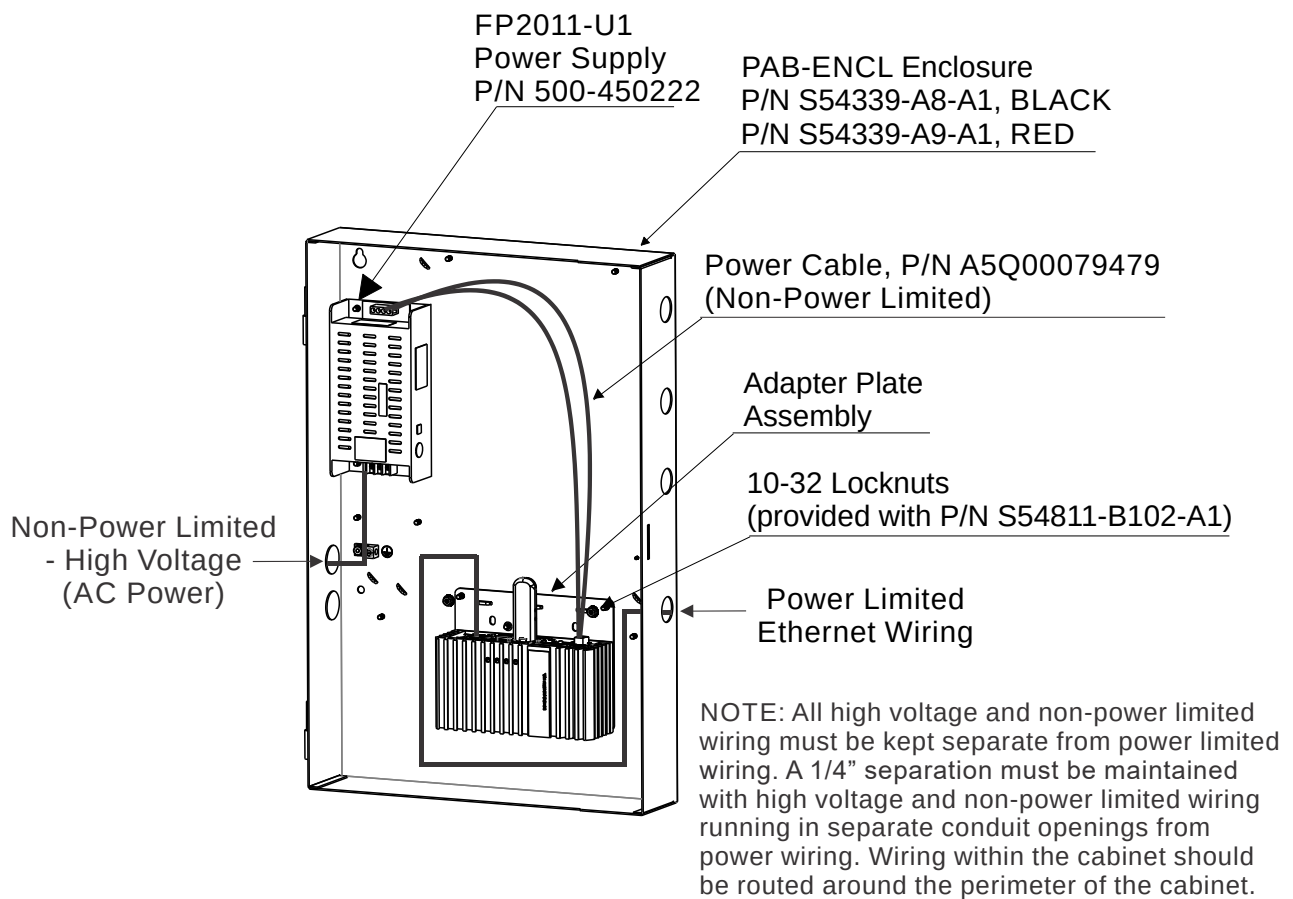

Figure 2
2. Place the adapter assembly into the PAB-ENCL enclosure, as shown in Figure 2, and secure it using the two locknuts provided.